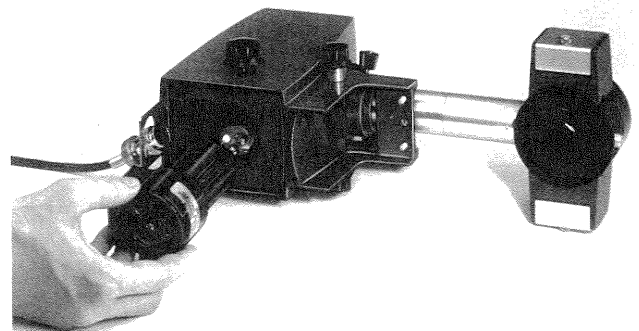

Figure 8.
5. Insert lampholder into lamphouse with lamp forward (Figure 8).